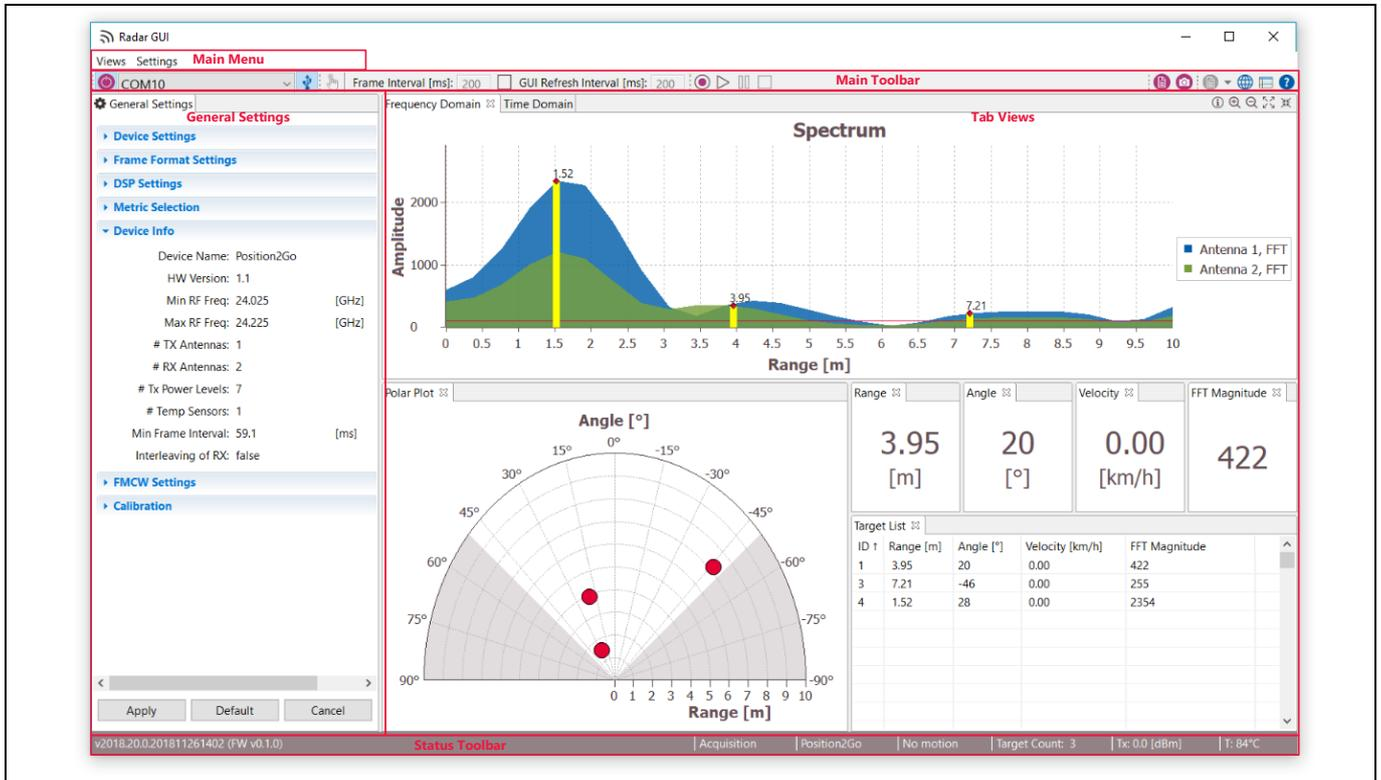

Figure 17 Radar GUI application window
- Radar GUI automatically starts acquiring data from the 24 GHz radar board, when the radar firmware is running. Figure 17 shows the Radar GUI default screen acquiring FMCW data from Position2Go radar device, in which the Frequency Domain view displays the spectrum data for each antenna.